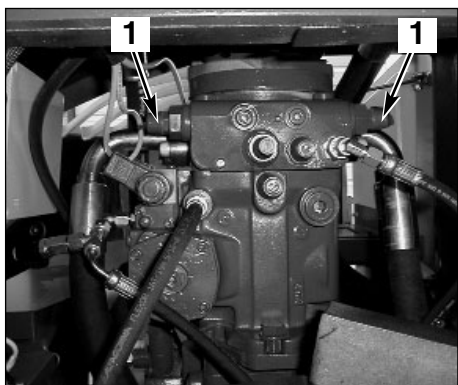

Fig. 2
- Undo the heads of the limiters on the bypass valves (1 fig. 2) situated under the transfer movement pump 2 or 3 turns, using a 22 mm open-ended spanner.